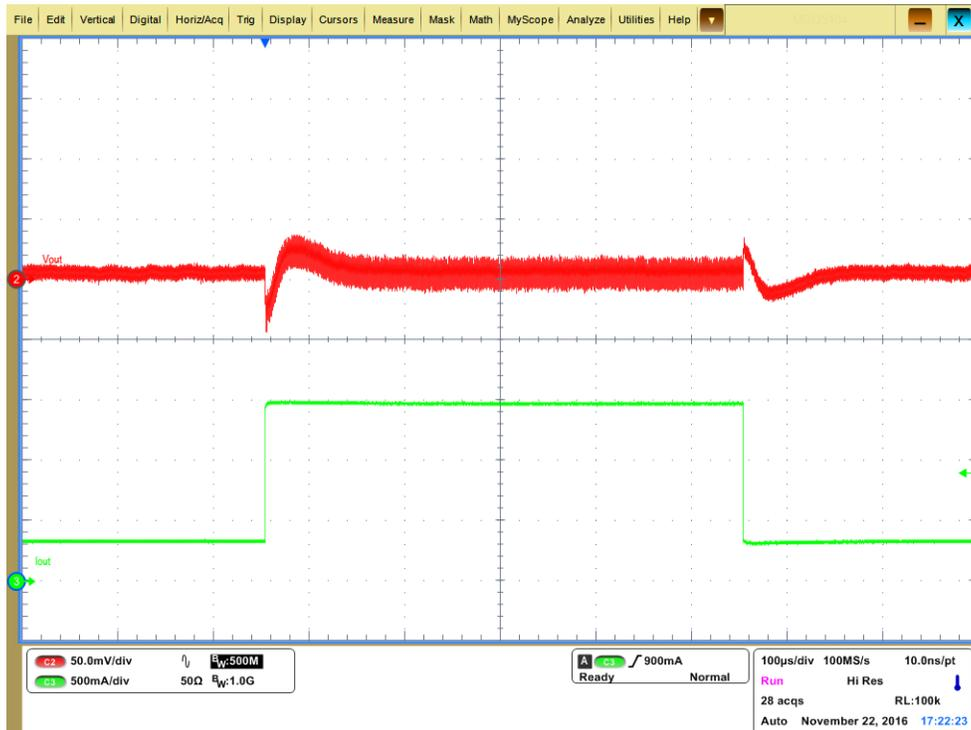

Figure 20. Transient Response Waveform, SMPS4
- Load starts at 300 mA, goes to 1.5 A, then returns to 300 mA (Figure 20)